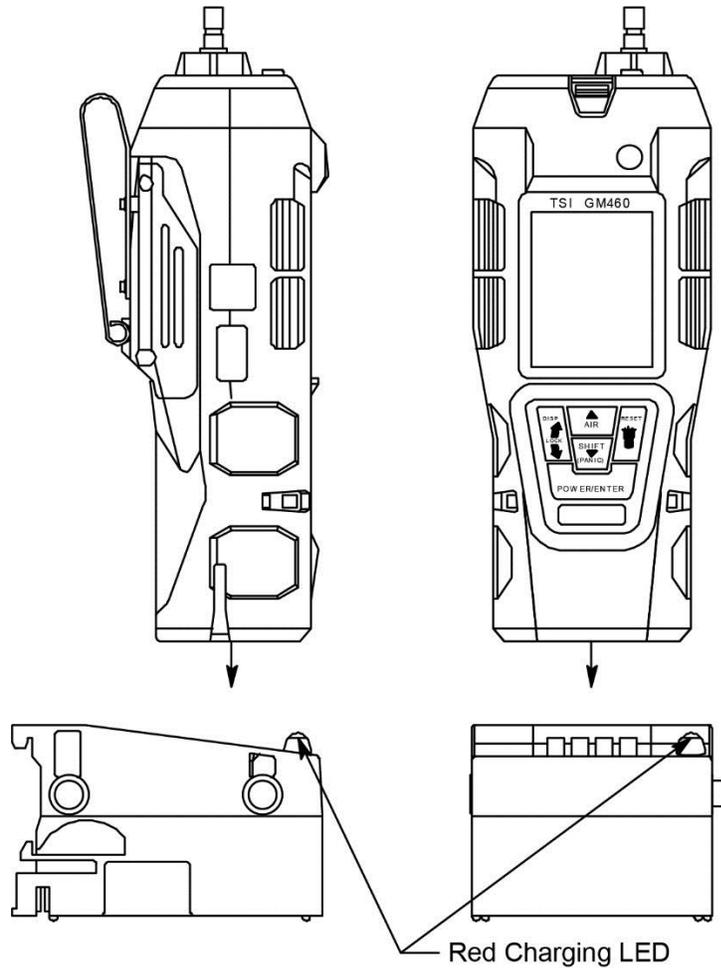

Figure 18: Putting the GM460 into the Charging Station
4. Place the GM460 into the battery charging station as shown in Figure 18 below so that the metal contacts on the back of the unit come into contact with the metal contacts on the back of the holder in the charging station. When proper contact has been made, the red LED on the charging station will turn on.